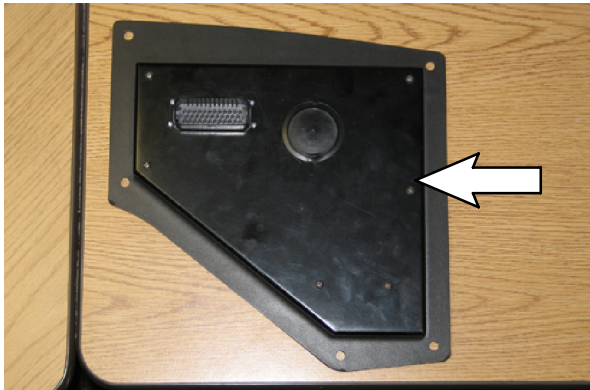

FIG. 3
1. Remove the back cover from the control panel. Set the back cover and hardware aside. Refer to Fig. 3.
7. Reinstall the back cover plate onto the control panel assembly. Refer to Fig. 3.